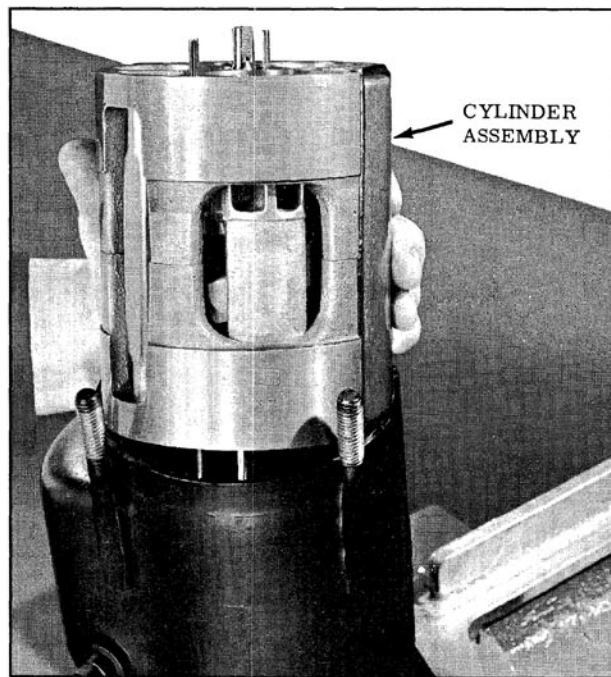

Fig. 14-110 Removing Cylinder from Housing
1. Remove the cylinder assembly from the rear of the compressor housing by pushing on the compressor shaft. (Fig. 14-110)